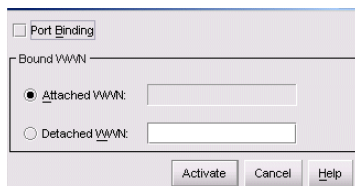

Figure 17: Port Binding dialog box
- **Port Binding**—Click this option to display the Port Binding dialog box (Figure 17). Use this dialog box to allow a device with a specific WWN or nickname to have exclusive connection to a port.